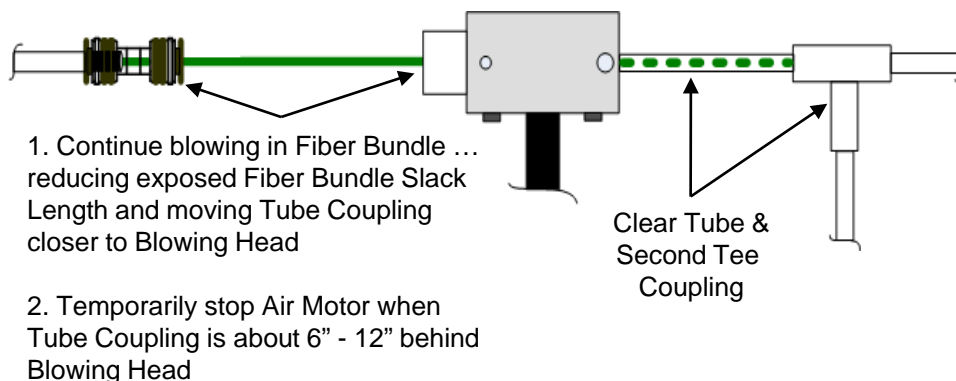

Figure 10A
11.5 **Key Step.** Blowing Head Operator closes Motor Rate Control Valve and stops fiber bundle movement when Tube Coupling is about 1 foot behind back of Blowing Head. **See Fig. 10A.**